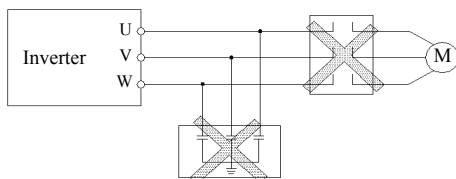

Fig.3-6 Forbid to use contactor and absorbing capacitor
(1) Before wiring, make sure that the power has been completely cut off for more than 10 minutes, otherwise there is a danger of electric shock.
(2) Forbid connecting power wire to output U, V, W of the inverter.
(3) If there is current leakage inside inverter, inverter and motor must be earth grounding for safety assurance, please refer to clause 8 in Chapter 3.4.1 for grounding wiring.
(4) Before shipment compression resistance test of the inverter is Passed, so users should not conduct compression resistance test again.
(5) Do not add absorbing capacitor or other resistance-capacitor absorbing device between inverter and motor; also do not add electromagnetic contact. If contactor and other switch component needed to add, please make sure inverter suspended without output, show as Fig.3-6.
(6) To provide inverter over-current protection in output side and convenient maintenance under power off, it should be connected to power source through air switch and contactor.
(7) Control signal wire should select multi-core stranded wire or shielding wire. One end of the shielding layer hang in the air, and the other end connect to inverter earth grounding terminal, connection wire shorter than 20m.